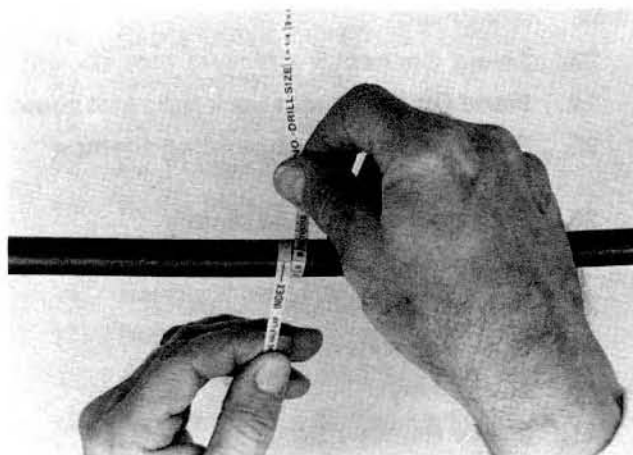

Figure 4
4.02 To use the Fiber Optic Measure Tape hold the tape so the index line is facing you. Then wrap the tape around the cable tightly to obtain the reference number. (See Figure 4.)